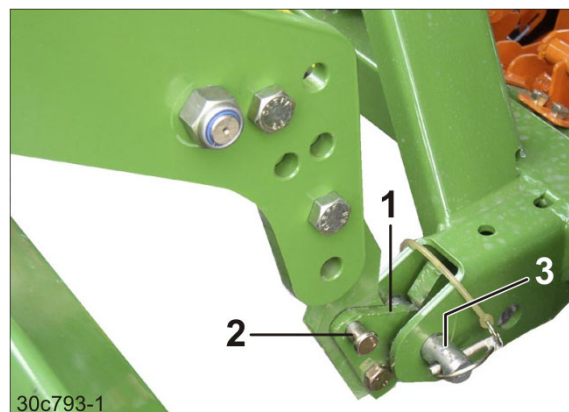

Fig. 89
2. Release the locking straps (Fig. 89/1).
- 2.1 Remove the pins (Fig. 89/2).
5. Engage the lower pivot points (Fig. 89/3) of the seed drill using the catch hooks.
7. Swivel the locking straps (Fig. 89/1) and secure each with a pin (Fig. 89/2). Secure the pins with linch pins.